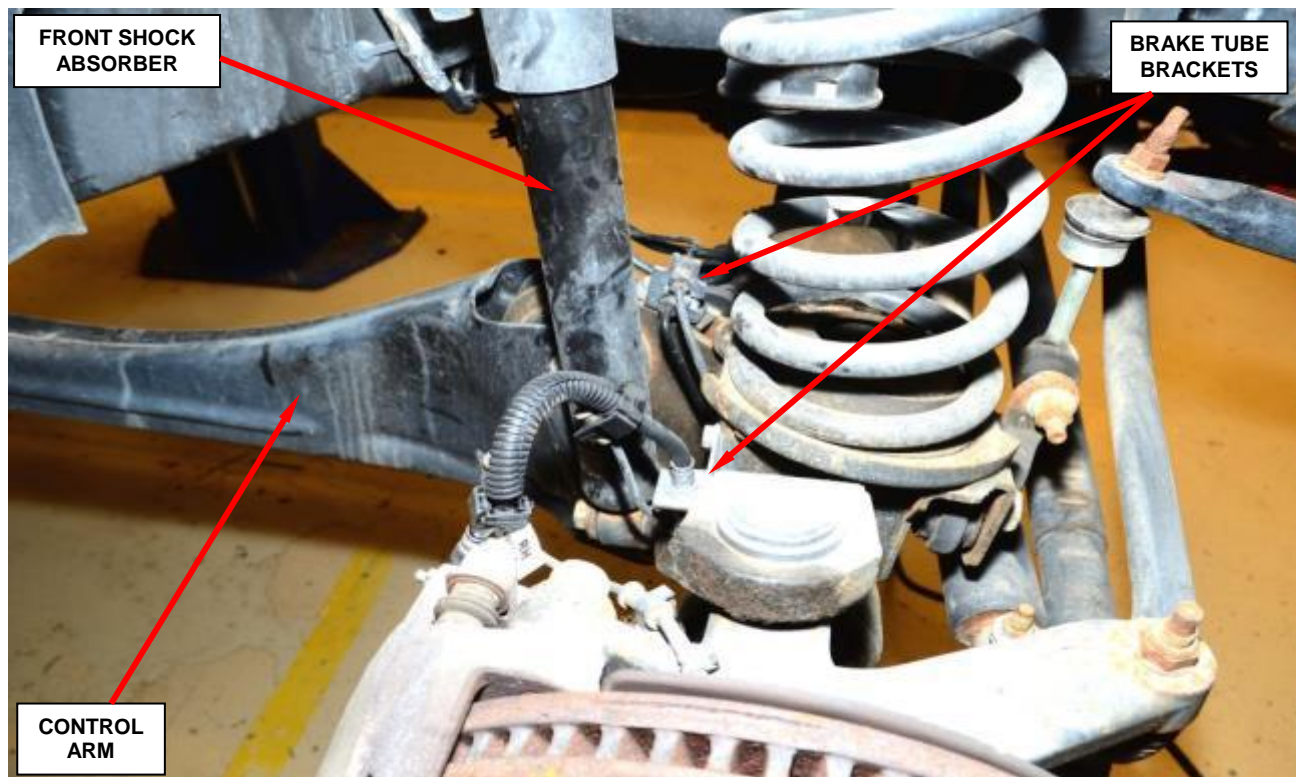

Figure 29 – Brake Tube Brackets
5. Remove and save the brake tube bracket bolt from the right and left control arm brackets (Figure 29).
6. Remove and save the brake tube bracket bolt from the right and left coil spring lower bracket (Figure 29).
14. Install the brake tube bolt from the coil spring lower bracket (Figure 29).
15. Install the brake tube bracket bolt from the control arm brackets (Figure 29).